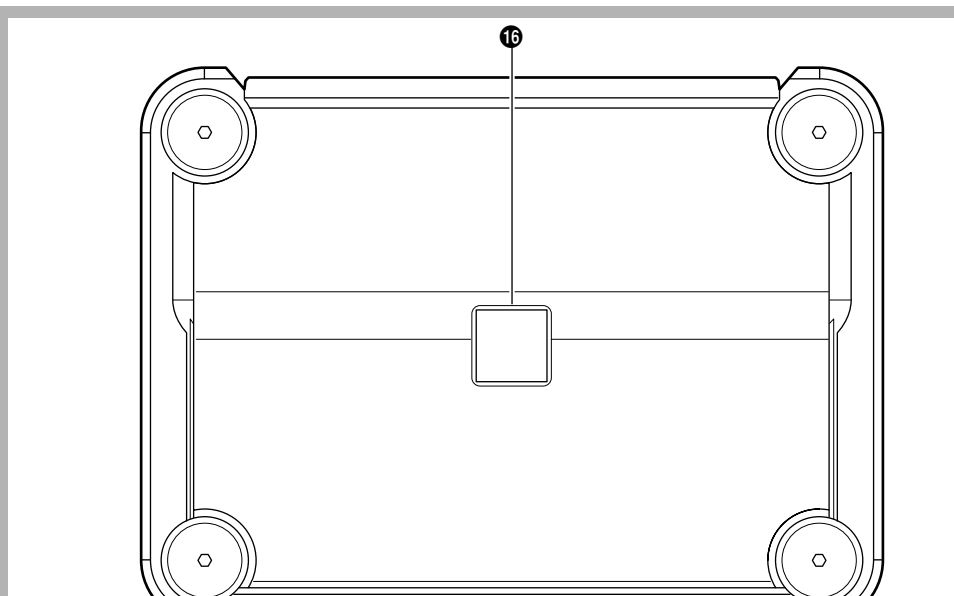

Fig. 9
**SWITCH SETTINGS (Fig. 9)**
**RÉGLAGES DE COMMUTEUR (Fig.9)**